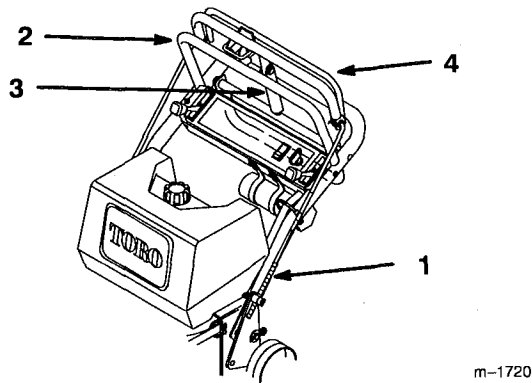

Figure 8
3. Check the gap between upper control bar and fixed bar with wheel drive fully engaged. Gap should be approximately 1 to 1-1/4 in. (25-32 mm) (Fig. 8).
5. Check parking brake adjustment. Brake rods should be adjusted so parking brake lever is snug when swung into position against the fixed bar while pulling back on upper control bar (Fig. 8).